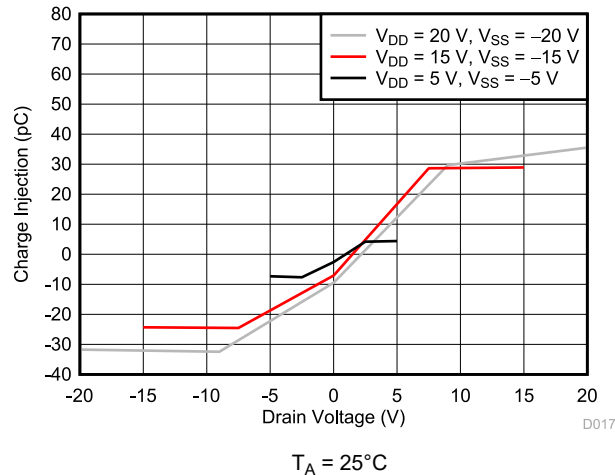

图 10-3. Charge Injection vs Drain Voltage
The low on and off leakage currents of TMUX7208 and ultra-low charge injection performance make this device ideal for implementing high precision industrial systems. The TMUX7208 contains specialized architecture to reduce charge injection on the drain side (D) (see 节 9.3.7 for more details). 图 10-3 shows the plot for the charge injection versus source voltage for the TMUX7208.